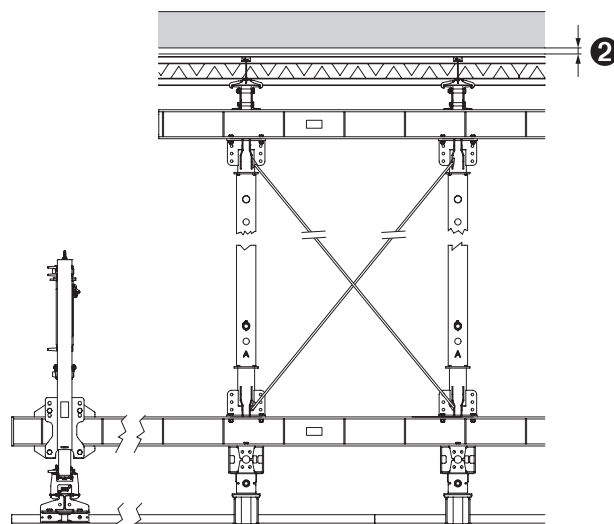

Fig. D2.02
- The entire tunnel formwork carriage is lowered. (Fig. D2.02)